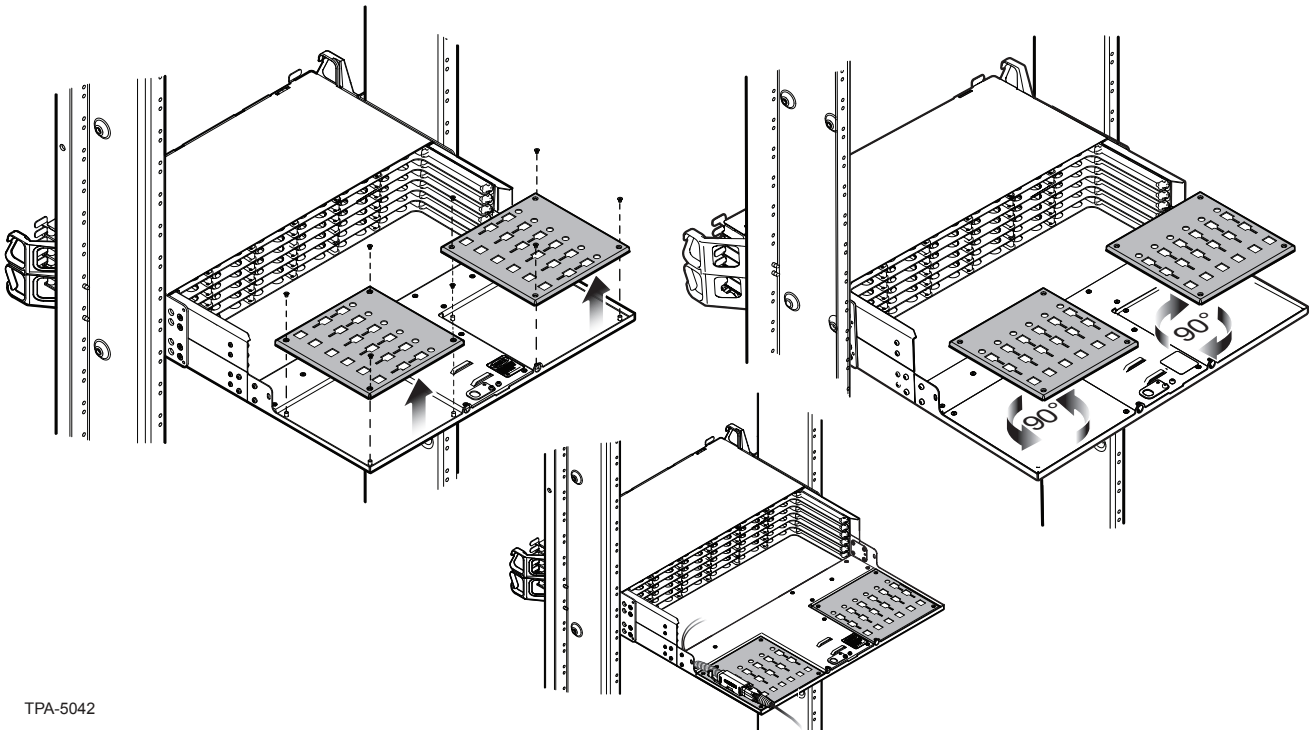

Figure 15 — Reorient Backplate
- Step 1:** Remove existing backplates by removing the four screws (Figure 15).